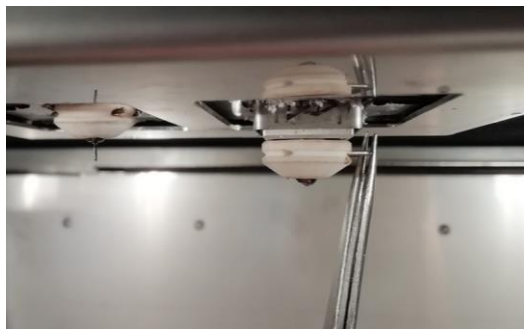

Fig. 89 Removing the cotter pin
10. Remove the metal cotter pin securing the hotend tip cover with tweezers or combination pliers (Fig. 89).